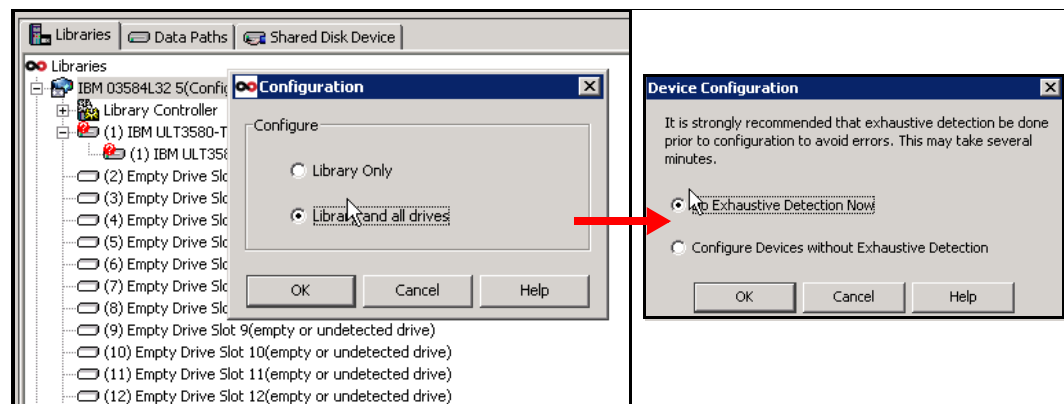

Figure 19-12 Configuration of remaining tape drives
13.After the first tape drive is correctly configured, configure the remaining tape drives by using Exhaustive Detection. Using Exhaustive Detection saves time in configuring each remaining tape drive (Figure 19-12).